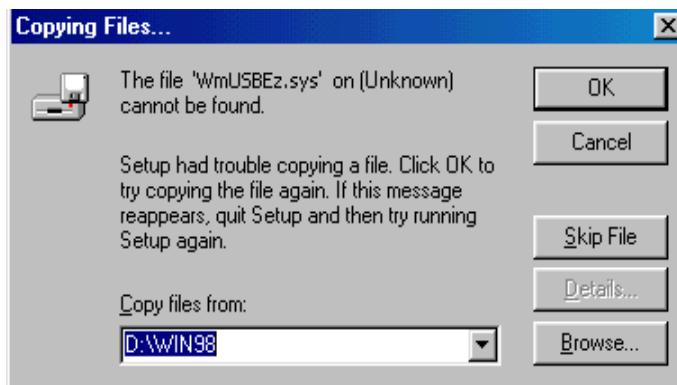

Figure 1-6. Windows 98 – Searching for .SYS File
7. Click Next. The **Copying Files** dialog box appears (Figure 1-6).